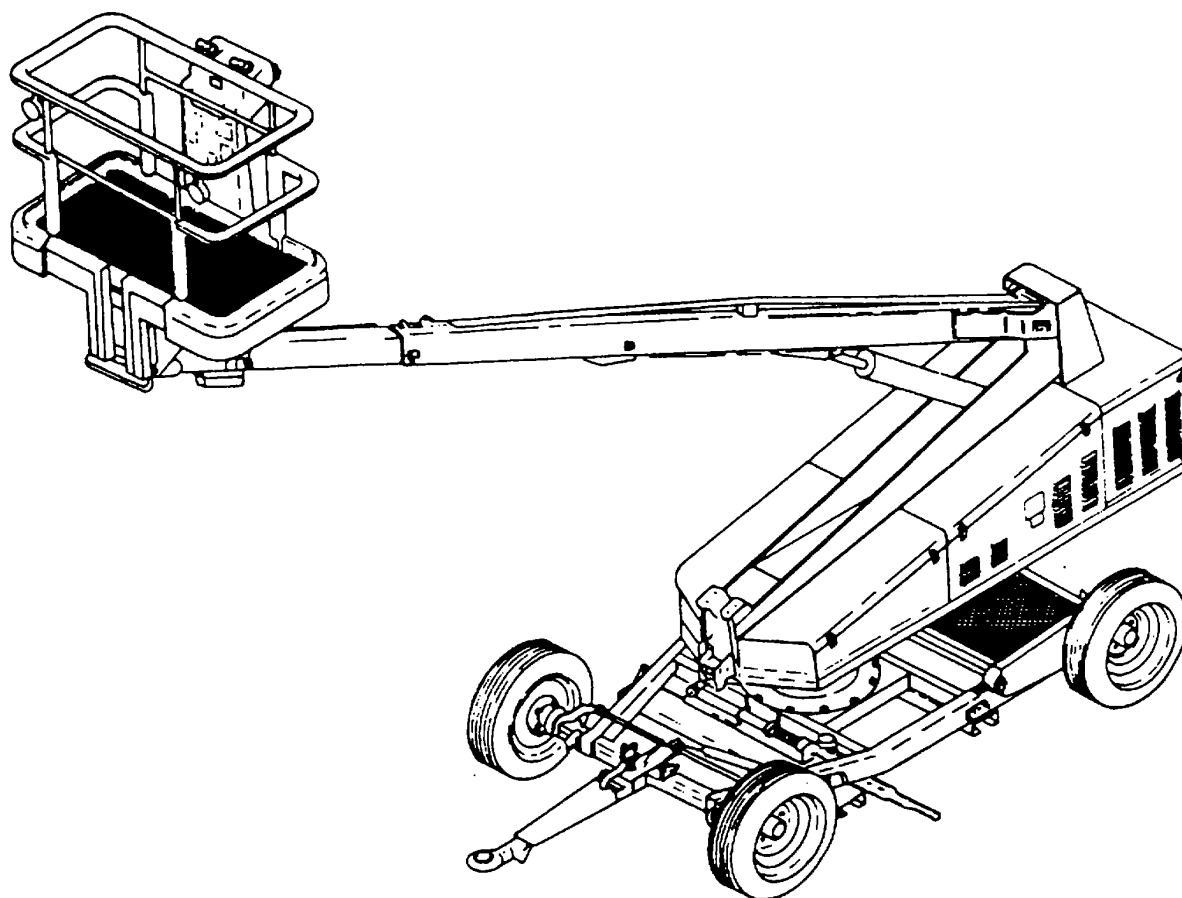

Figure 9-4. SPEM Stand
(4) *Self-propelled elevated maintenance workstand.* The Self-Propelled Elevated Maintenance (SPEM) workstand, shown in figure 9-4, is driven by a gasoline engine. The stand is self propelled at 2 mph and can be driven from the workbasket.